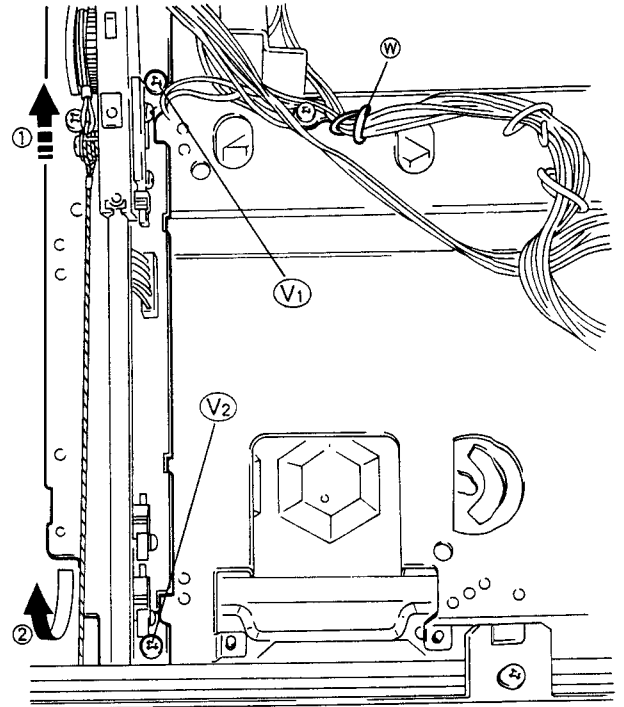

Fig. 2-7.
2. Remove the screws V1 and V2 fixing the loading mechanism assembly and the lead wire from cord stopper W. (Refer to Fig. 2-7.)